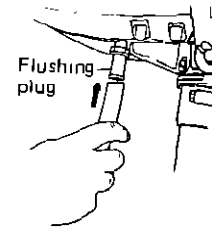

Fig. 27 Flushing out the cooling system
- 2) To wash out the cooling system first remove the propeller and place the unit vertically in a large bucket or tank containing more than 40cms (depth) of fresh water. Start the engine and allow to run at a low speed so that the fresh water flushes out the cooling system. Remove the water plug on the Drive Shaft Housing and screw the flushing plug. Connect a hose to this adaptor and flush out the system with fresh water. (Fig. 27)